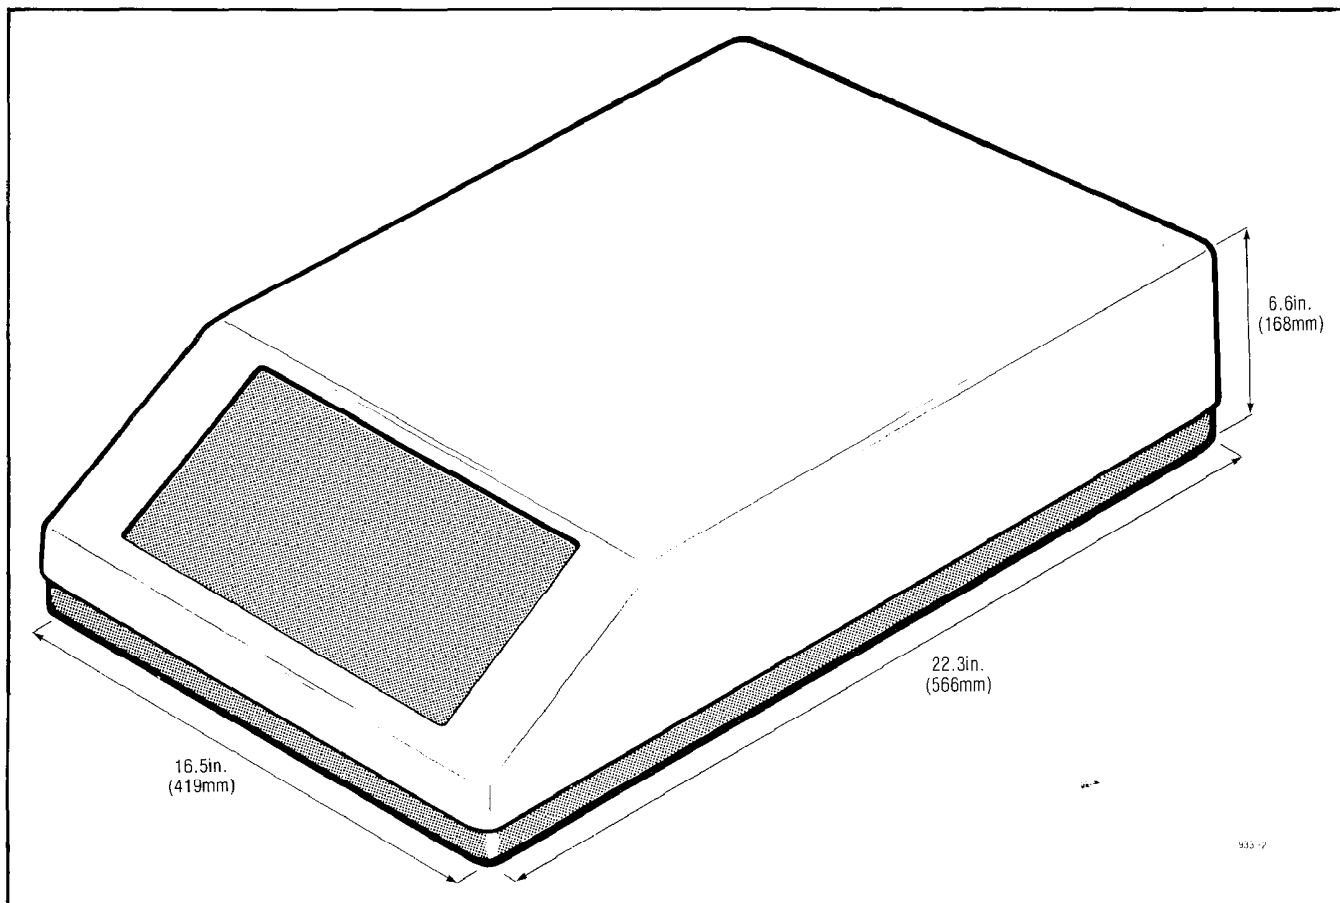

Fig. 3-1 SX-20 Equipment Cabinet
**3.01** The SX-20 consists of a metal chassis (holding the circuit cards, power supply, etc) and an impact resistant plastic cover. The overall dimensions of the SX-20 are shown in Fig. 3-1, the total weight of a fully equipped system is approximately 29 lbs. (13.2kg).